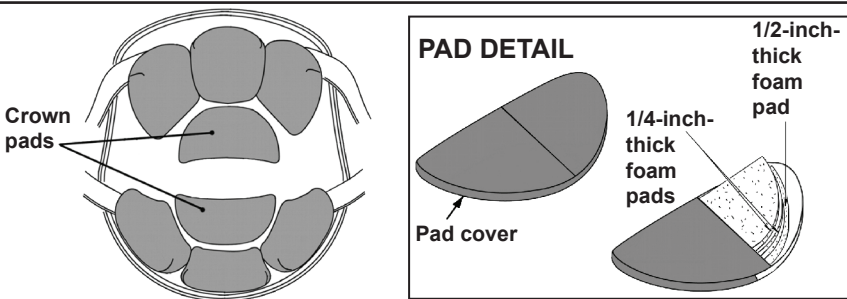

Figure 8. Crown Pads
2. Ensure that the front pads are just above the eyebrows. If the helmet is too high, have the wearer remove the helmet. Referring to **Figure 8**, adjust the height as follows: